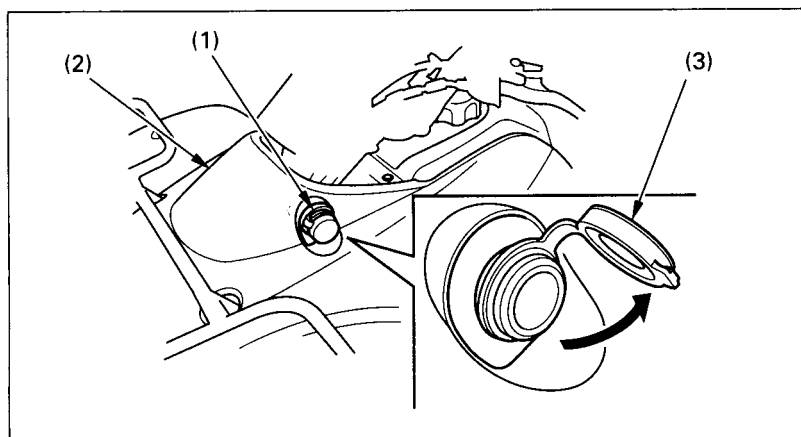

Fig. 2-33
The accessory socket (1) (Fig. 2-33) is attached to the left side of the front fender (2). You can use the accessory socket to power a trouble light, spotlight, CB radio, or cell phone, etc.